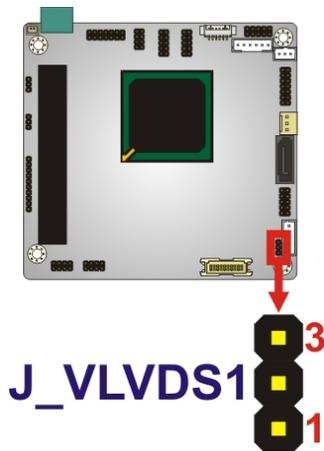

Figure 4-6: LVDS Voltage Selection Jumper Locations
- Jumper Location:** See Figure 4-6